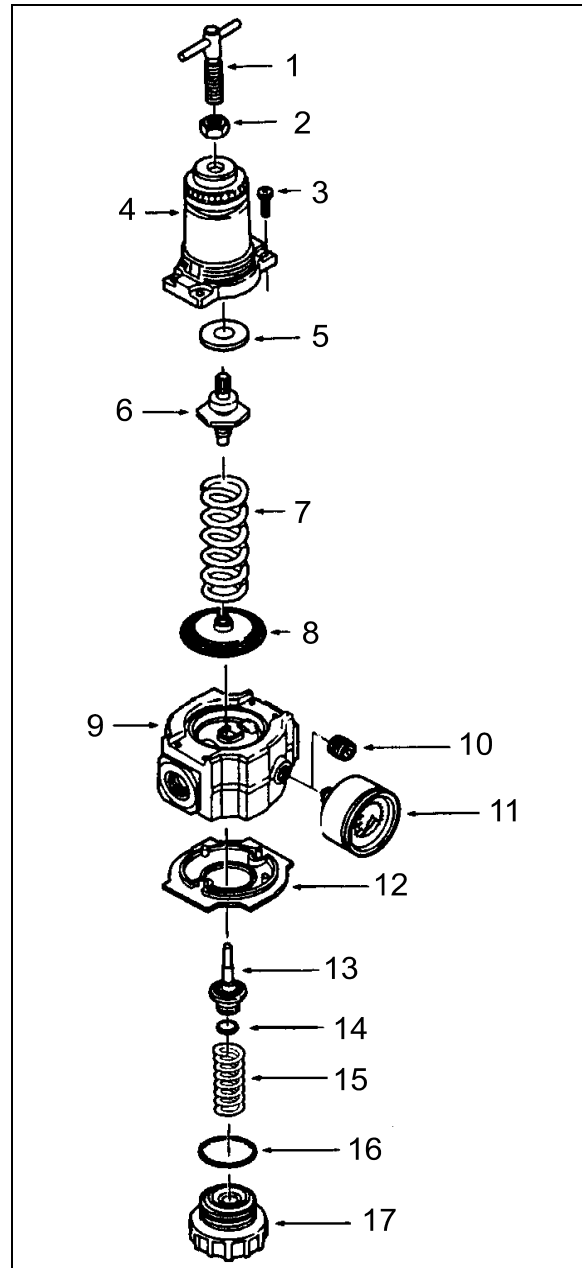

FIGURE 13: REGULATING VALVE
1. Before turning on system air pressure, release jam nut (2, Fig. 13) then turn regulator adjustment counterclockwise until
5. Tighten jam nut (2, Fig. 13) to lock pressure setting.
1. Shut off inlet pressure and reduce pressure in inlet and outlet lines to zero. Turn regulator adjustment (1, Fig. 13) counterclockwise until all load is removed from regulating spring. Regulator can be disassembled without removal from air line.
1. Lubricate O-ring (14 and 16, Fig. 13), valve stem (13, Fig. 13), tip of adjusting screw (1, Fig. 13), and the outer circumference and both sides of the thrust washer (9, Fig. 13) with a light coat of good quality O-ring grease.